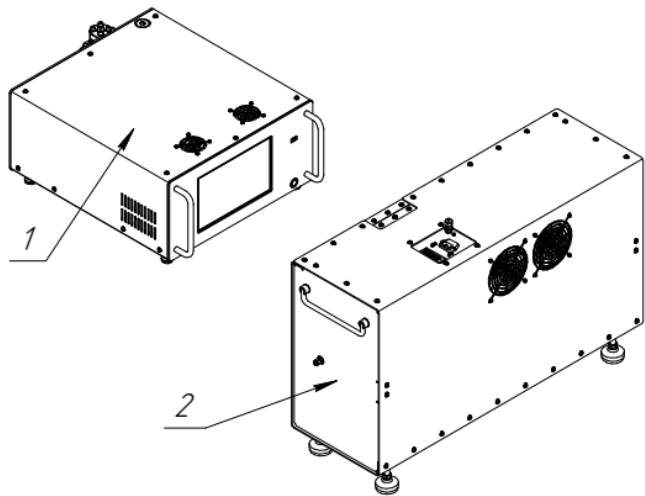

Fig. 1. Calibrator and its component parts
4.1 The appearance of the calibrator and its component parts is shown in Figure 1.